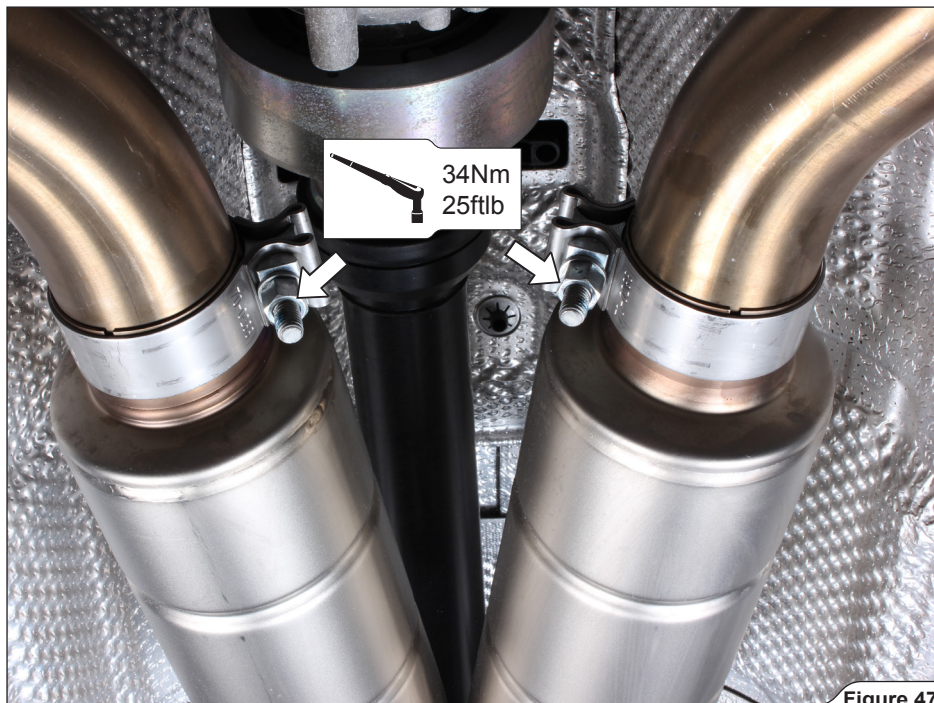

Figure 47
13. Tighten the collector - link pipes joints' clamps to the specified torque (**Figure 47**).